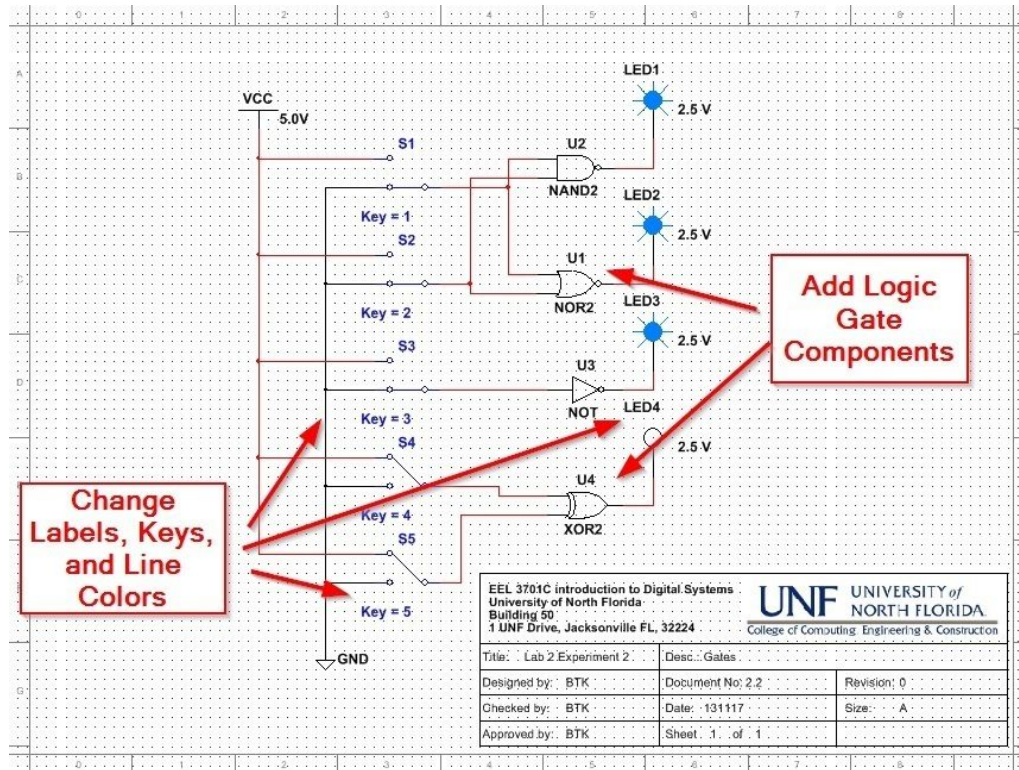

Figure 6. L1S2 Circuit.
- 2) Using digital devices from the Miscellaneous Digital Group and **TIL** Family, create the circuit shown in Figure 6. Be sure to change the labels, keys, and line colors as indicated in the Figure.